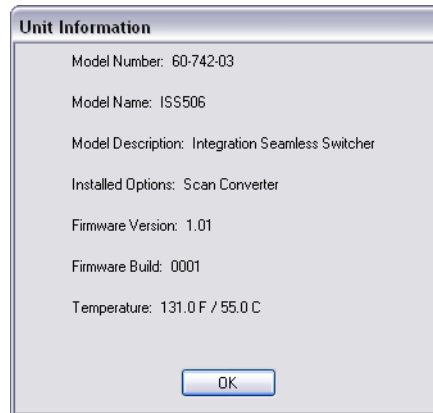

Figure 5-24 — Unit Information window
- Unit Info** — Pops up a window (figure 5-24) that provides basic information about the status of the ISS, including the model name and number, the installed daughterboards, the firmware version and build, and the internal temperature.